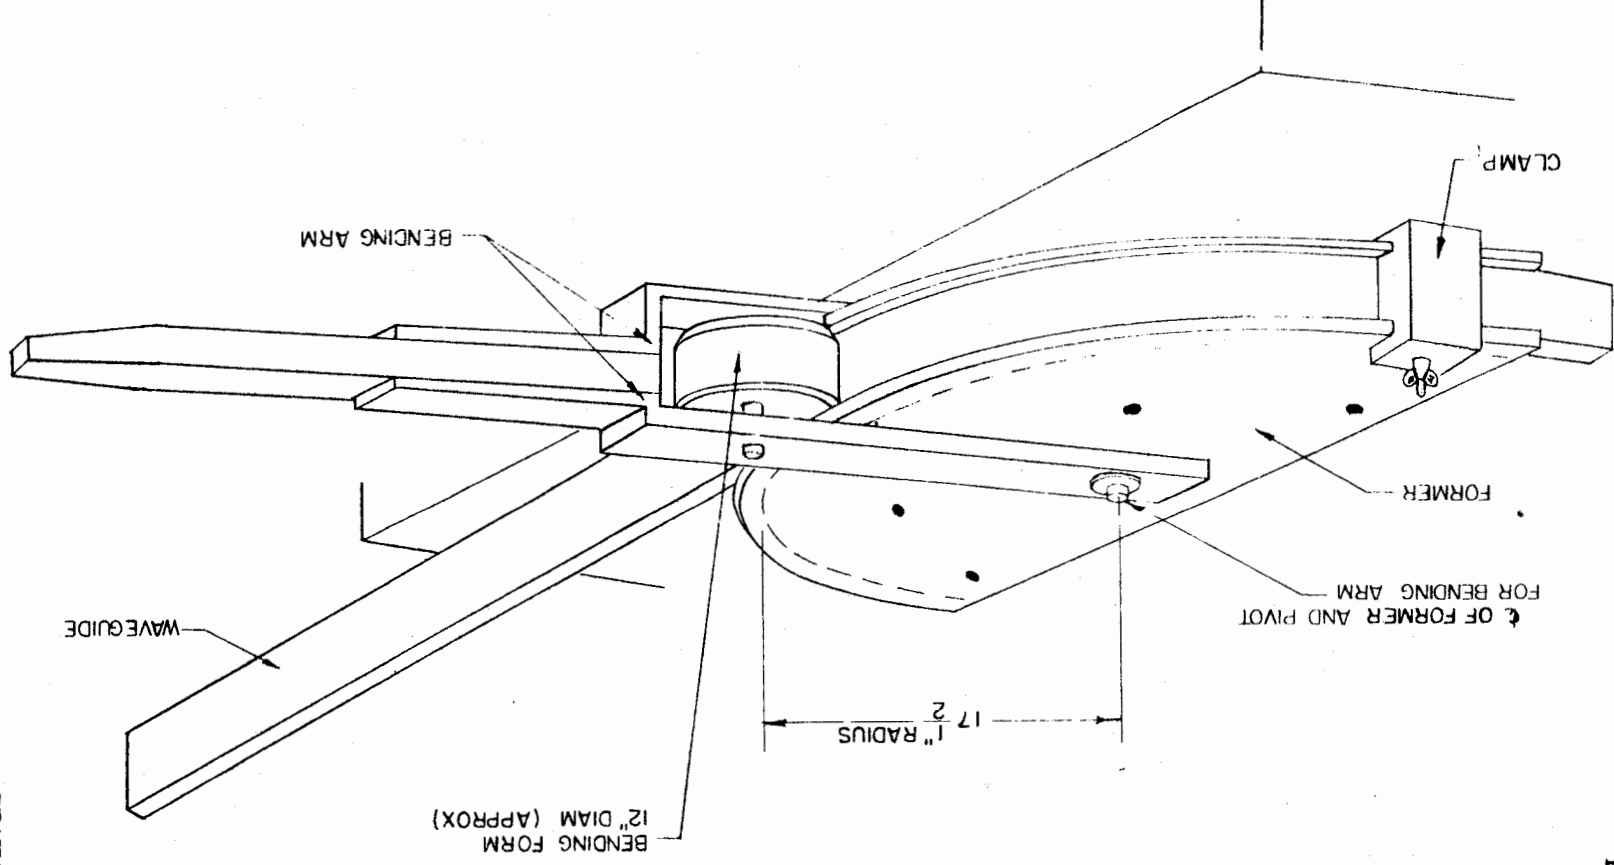

Figure 11-20. Waveguide Hand Bending Tool
(4) Bending the waveguide sideways: The waveguide is bent until it has the desired angle and a true radius. The puckers in the throat of the bend are hammered smooth with a properly shaped hammer. The radius of the face of the hammer must be as nearly like the radius of the throat as is practically possible.
(5) Bending the waveguide edgewise: The waveguide is bent approximately half way to the desired angle until visible distortions appear in the form of puckers in the throat and bulges in the side walls. The puckers are hammered smooth as explained before, and the walls are dressed by a 3-1/2 inch square-faced blacksmith's flatter with a suitable hammer supplying a proper blow. Another method is to insert the guide in a hand roller and roll the guide through several times with increasing pressure. After all distortion has been removed, the filler is removed and the waveguide is re-annealed and refilled. The waveguide is bent again until it has the desired angle and a true radius. The puckers in the throat are again removed as before and the increase in the thickness of the waveguide at the throat is reduced to normal by applying light blows to the flatter while it is being held firmly against the throat area of the side walls. Waveguide can be bent very satisfactorily with rosin to within five to ten percent of perfection. This result may be obtained by a properly trained coppersmith using the previously described tools and methods.
c. HAND BENDING MACHINE.— If none of the previously described methods are available for bending waveguide, it is possible to make up a Hand Bending Machine as shown in Figure 11-20. This type of bending machine does not require very many parts and it is capable of making satisfactory bends in most cases, provided the operator uses sufficient time and care.